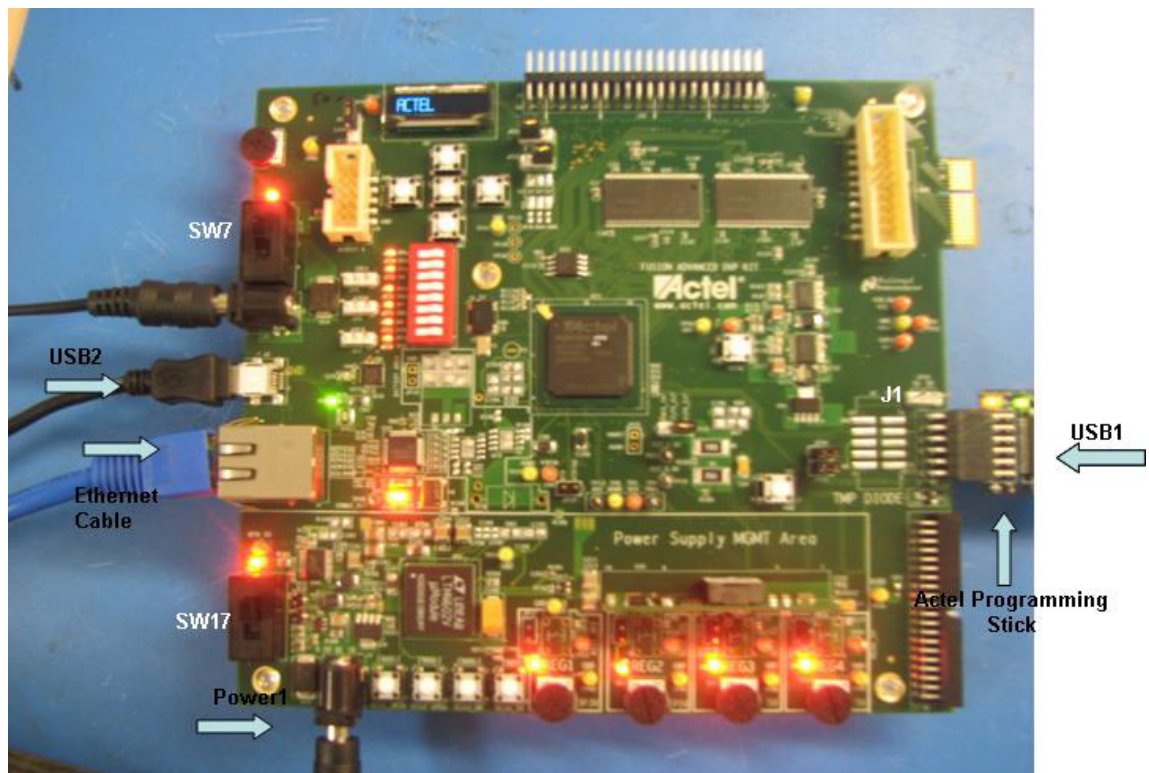

Figure C-1 · Connect J1 Pins on M1AFS-ADV-DEV-KIT Board
1. Connect the Actel M1AFS-ADV-DEV-KIT board to the Actel programming stick. Connect the J1 pins on the M1AFS-ADV-DEV-KIT board to the programmer, as shown in Figure C-1.
2. Connect one end of USB mini B cables to the USB connections on the M1AFS-ADV-DEV-KIT board and the Actel programming stick. These connections are labeled USB 1 and USB 2 in Figure C-1 on page 55.
4. Connect one end of a 9 V power supply to power input, Power1, on the M1AFS-ADV-DEV-KIT board, as seen in Figure C-1 on page 55. Connect the end of another supply to input Power2. Plug both supplies into an electrical outlet.